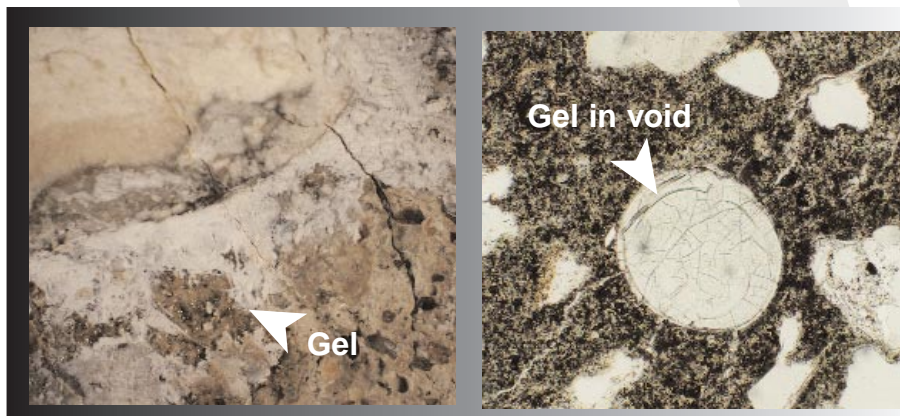

Fig. 1. ASR gel as viewed using (left, #68937) a stereomicroscope (10 x) and (right, #68938) a polarized-light microscope (100x).
*Fig. 1. This white precast concrete building houses the ASTM International Headquarters in West Conshohocken, Pennsylvania. Architect: Diseroad Wolff Kelly Clough Bucher Inc., Hatfield Pennsylvania. Photographer: Peter Leach, Denver, Pennsylvania.*
- architectural panels, precast or cast-in-place (see Figs. 1 and 4)
The identification of gel, the product of alkali-silica reaction, is based on visually and microscopically distinctive optical and physical properties of fresh and aged gel. The petrographer also studies the association of gel with specific aggregate rock types and notes the distribution and location of gel in order to establish the significance of ASR in the concrete. The petrographer recognizes that the presence of ASR gel does not always signal distress in concrete as some aggregates produce only meager amounts of gel. The petrographer also looks for other distress mechanisms beyond ASR. Figure 1 shows alkali-silica gel viewed with a stereomicroscope and with a polarized-light microscope.